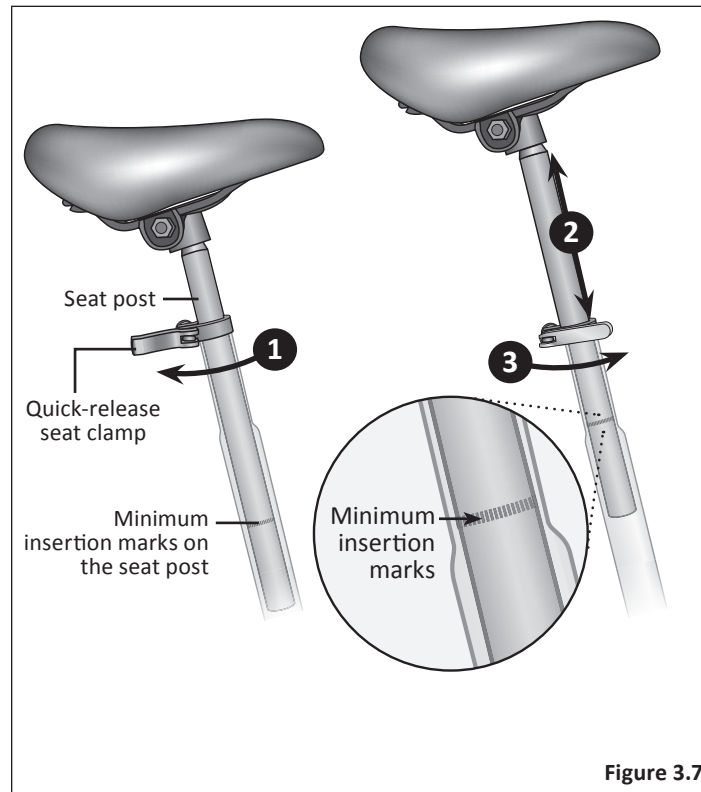

Figure 3.7
- ❶ Unlock the seat post quick-release lever. **Figure 3.7**
- ❷ Move the height of the seat up or down until the rider feels they have control of the bicycle and are comfortable (see **Section 1: Seat Height and Handlebar Reach**).
- ❸ Close the quick-release lever and lock the seat in place. If there is not enough force to hold the seat in place open the quick-release lever, hold the base and turn the lever clockwise until you have sufficient force and the seat cannot move.
- ❹ Check the seat does not move.